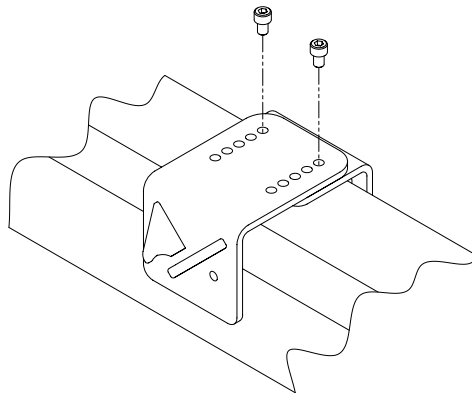

Figure 3: Attaching Front Plate to the Rear Plate.
4. Put the Front Plate on top of the Rear Plate facing the opposite direction, and attach using 2 of the M8 X 1.25 X 14 Socket Head Screws. (refer to Fig. 3)